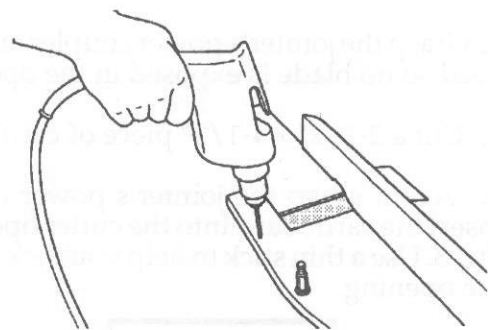

Fig. 8
15. Use a  $7/32"$  ( or #3) twist drill bit and variable speed drill to drill a hole through the table at the punch mark, as illustrated in Fig. 8. Use a square to make sure that you drill the hole perpendicular to the surface of the table.